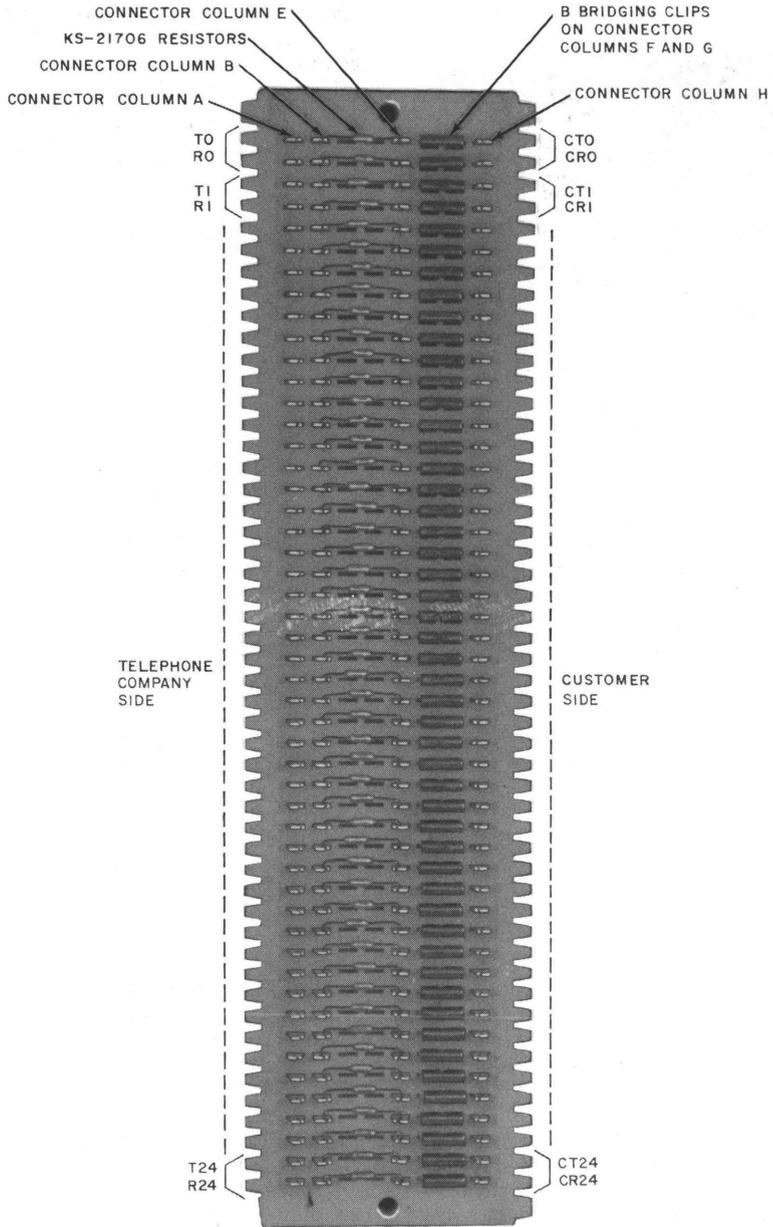

Fig. 20—125A Interconnecting Unit
**2.20 125A Interconnecting Unit**—Resembles a 66-type connecting block and provides up to 25 circuit connections which provide a connection between customer-provided traffic measuring equipment and Bell System station lines, PBX CO trunks, and tie lines. This equipment permits the CPE to detect on-hook, off-hook, dial pulse, TOUCH-TONE signals, call progress tones, and ringing signals on Bell System lines. (See Fig. 20.)